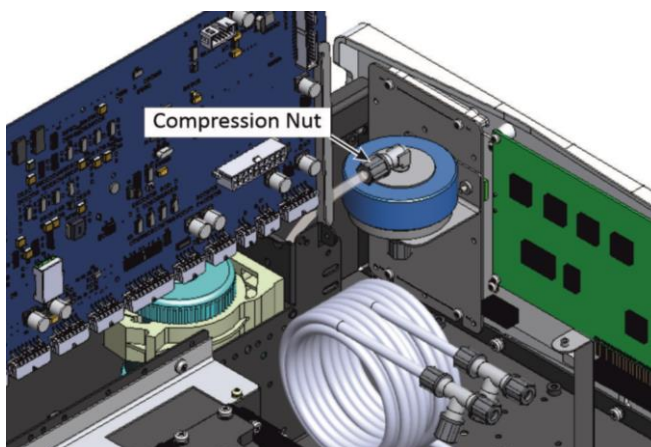

Figure 126 – Remove Tubing
3. Refer to Figure 126. Loosen the compression nut and pull-out the tube from the fitting.